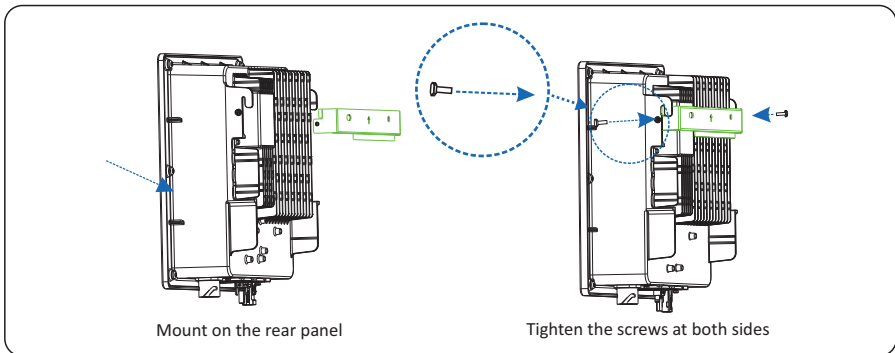

Figure 4.14 Securing the inverter
Step 2 Mount the inverter on the rear panel and keep them aligned with each other, as shown in Figure 4.14.
Step 3 Tighten the two hexagon screws at the both sides of the inverter to a torque of 1.2N.m and 3N.m respectively. Screw specs for 2K-3.6K and 4K-6K are M4 and M6 respectively, as shown in Figure 4.14.